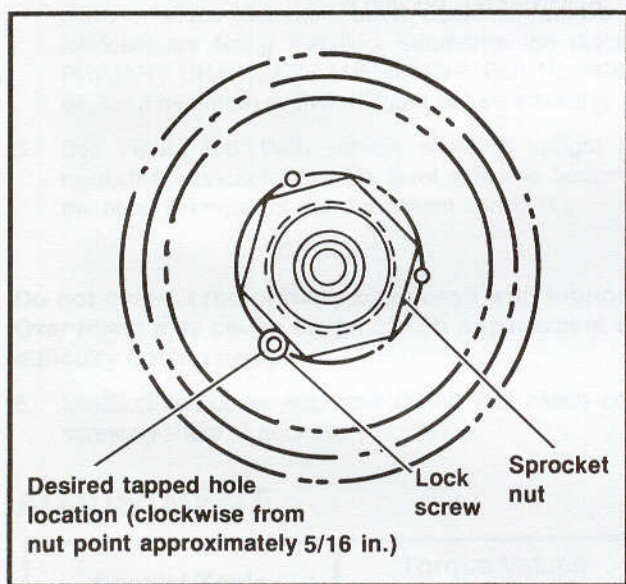

Figure 6-6. Sprocket Nut Lockscrew - 1991
2. See Figure 6-6. On 1991 models, remove the socket head lockscrew installed next to one of the nut flats. Apply rear brake and remove the sprocket nut using MAINSHAFT LOCKNUT WRENCH, Part No. HD-94660-37A.
3. See Figure 6-6. Apply rear brake and tighten sprocket nut to 110-120 ft-lbs torque using MAINSHAFT LOCKNUT WRENCH, Part No. 94660-37A. Turn the sprocket nut an additional amount, just enough to expose one of three lockscrew holes. The proper hole location in relationship to the nut is shown. Coat threads of lockscrew with Loctite LOCK'N SEAL. Install lockscrew in the exposed hole and tighten to 50-60 in-lbs torque.